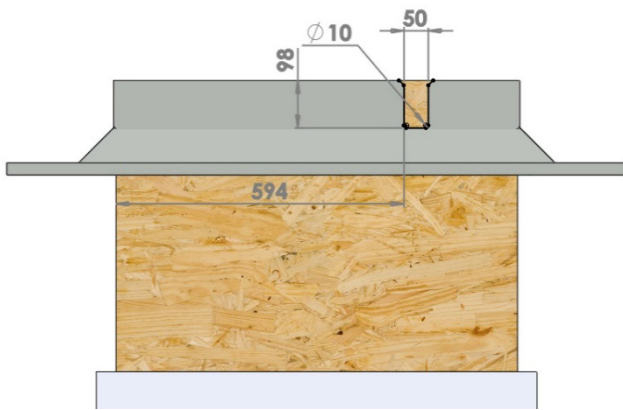

Figure 10 – Upstand cut-out section.
1. Mark out shape as per diagram – *see figure 10*.